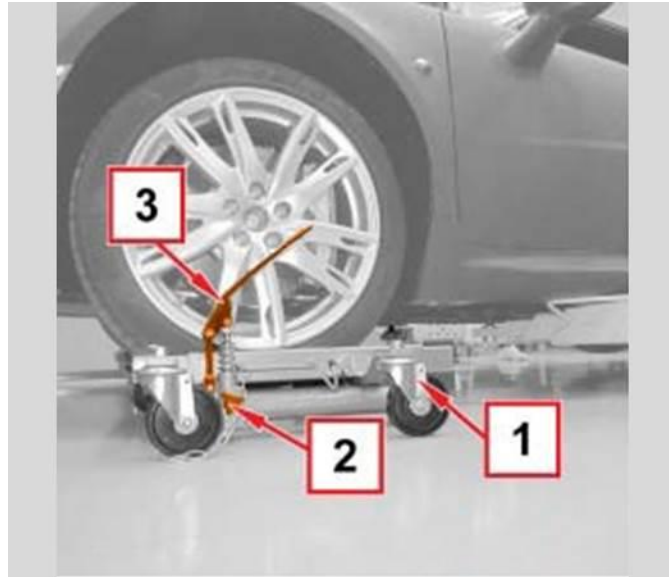

Fig. 1 Position Wheel Jack Dolly
1. Position the jack dolly (1) as shown in (Fig. 1).
2. Operate the valve (2) to adapt the jack dolly to the dimension of the front wheel then close the valve to lock the lift (Fig. 1).
3. Press the pedal (3) to lift the vehicle and correctly position the lift arms (Fig. 1).